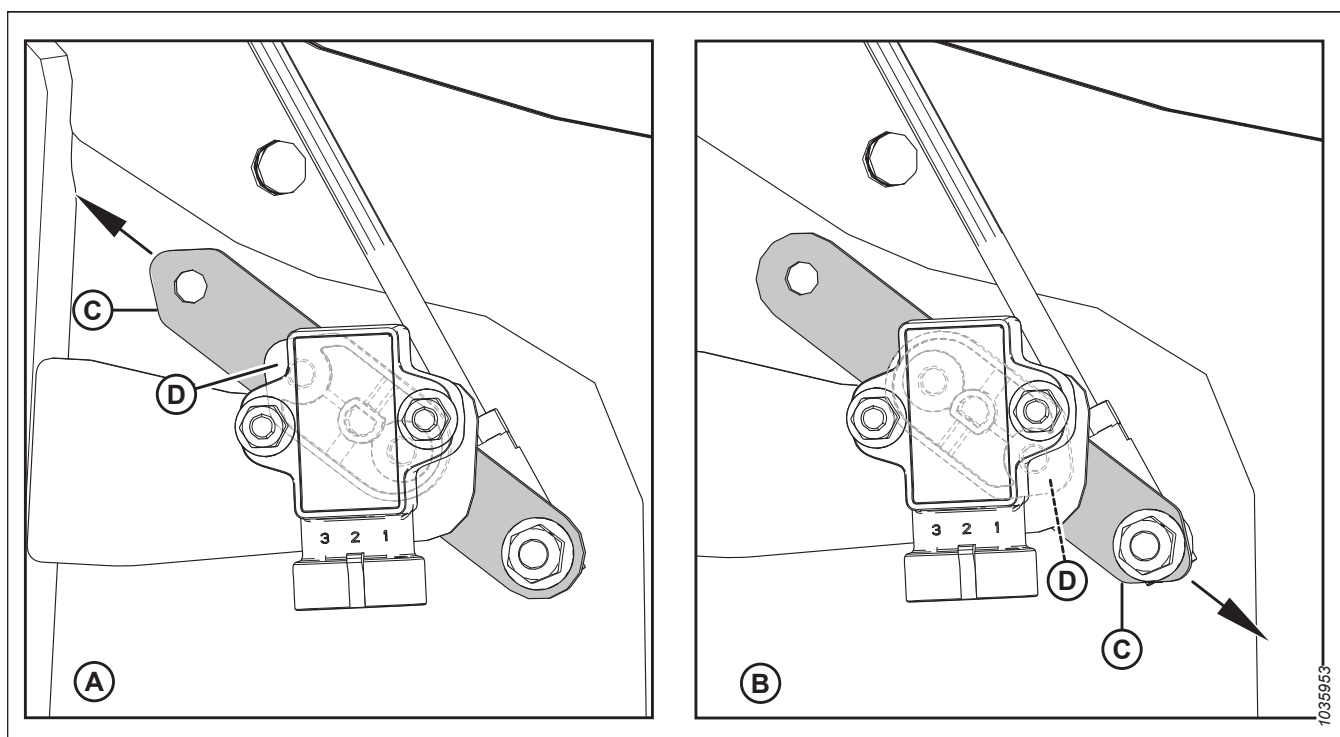

Figure 3.329: Sensor Arm/Pointer Configurations
- Check that sensor arm (C) and pointer (D) are configured properly for your machine, refer to Figure 3.329, page 214.